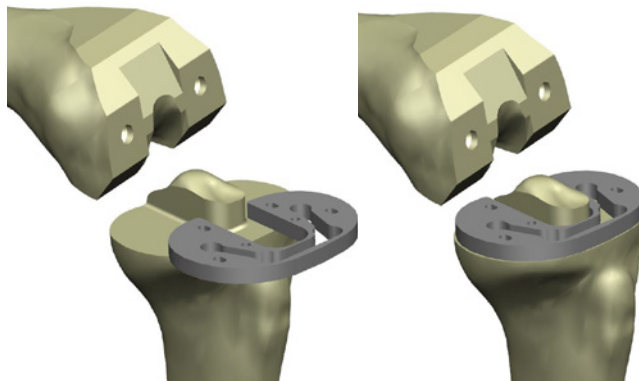

Figure 41
- 1 Place the appropriate tibial punch guide onto the tibia and ensure adequate fit and coverage (Figure 41).